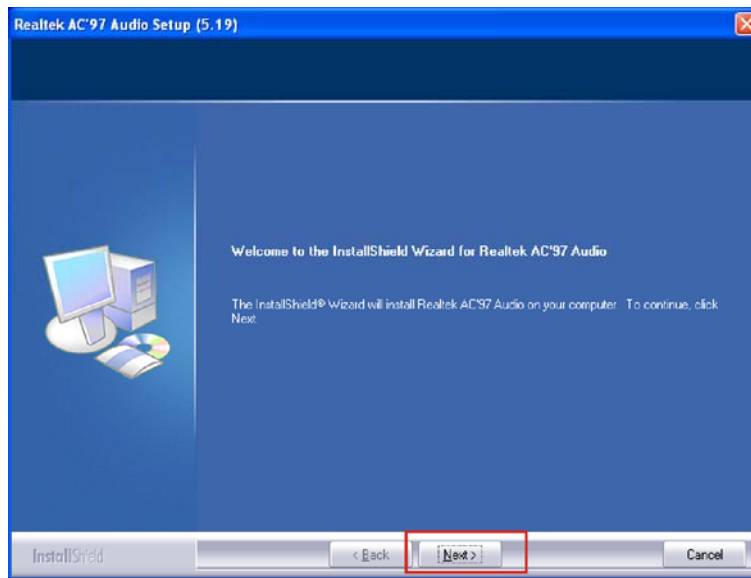

Figure 7-21: Audio Driver Welcome Screen
Step 4: Once initialized, the **InstallShield Wizard** welcome screen appears (Figure 7-21).